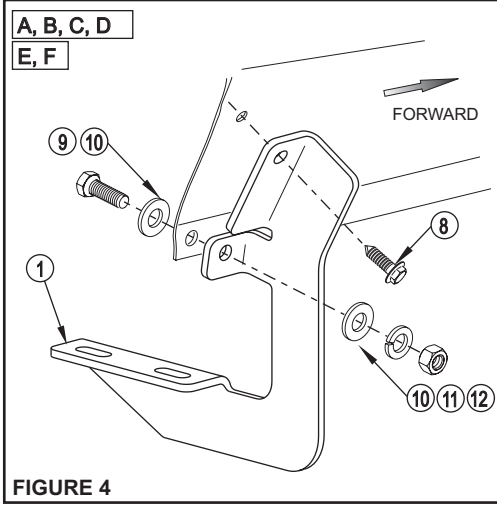

FIGURE 4
- STEP 4. Attach mounting brackets as shown. **SEE FIGURES 4, 5 AND 6.**